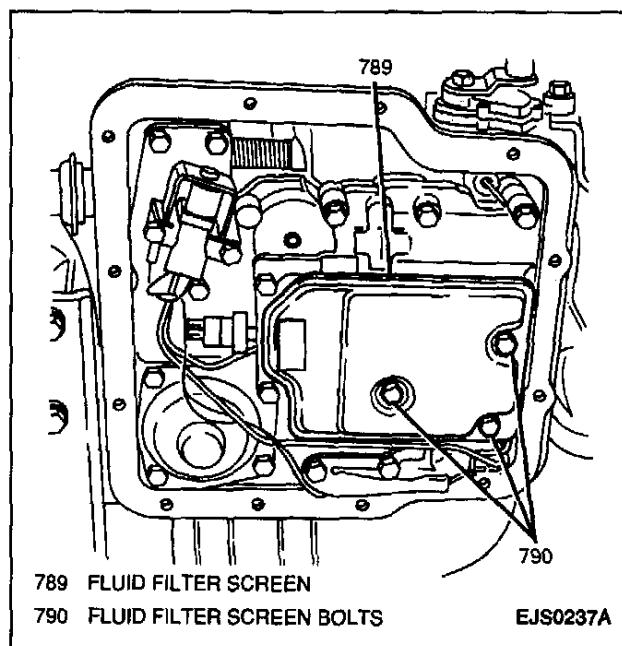

Figure 30—Fluid Filter Screen (3L30, 3-Speed)
7. Three bolts, fluid filter screen and gasket from valve body (Figure 30).